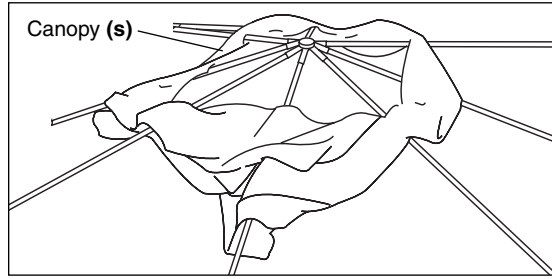

Fig. 3
- Slide canopy (s) over canopy poles as shown. (Fig. 3). Do not attach to side panels at this time.